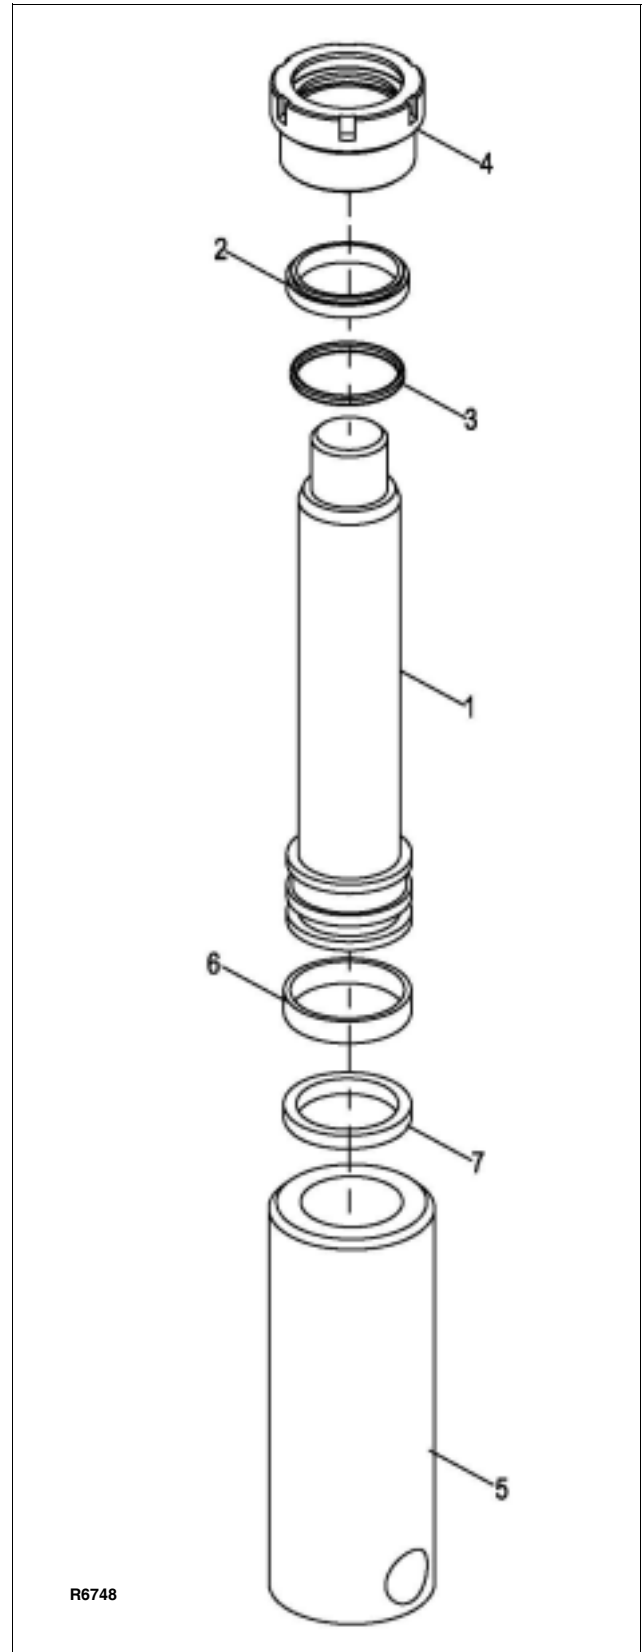

Figure 9-4 Lift Cylinder
2. Unscrew gland nut (4, Figure 9-4) from body (5).
3. Remove wiper (2) and O-ring (3) from gland nut (4).
4. Withdraw the cylinder rod (1) from body (5).
5. Remove guide ring (6) and seal ring (7) from rod (1).
6. Replace guide ring (6), seal ring (7), wiper ring (2) and O-ring (3).
8. Install new guide ring (6) and seal ring (7) on rod (1).
9. Insert piston rod (1) into body (5).
10. Install wiper (2) and O-ring (3) in gland nut (4).
11. Install gland nut (4, Figure 9-4) in body (5).